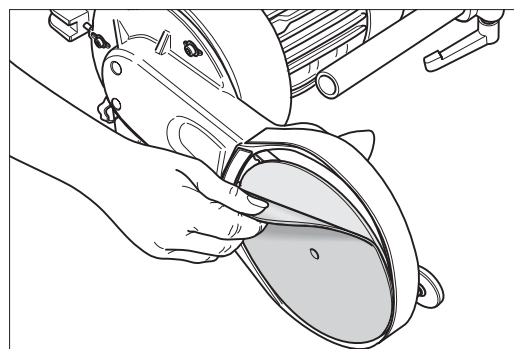

Fig. 45: Simply pull off the worn-out Velcro sanding disc.
- 4 Pull off the worn-out Velcro sanding disc from the sanding disc wheel (Fig. 45).